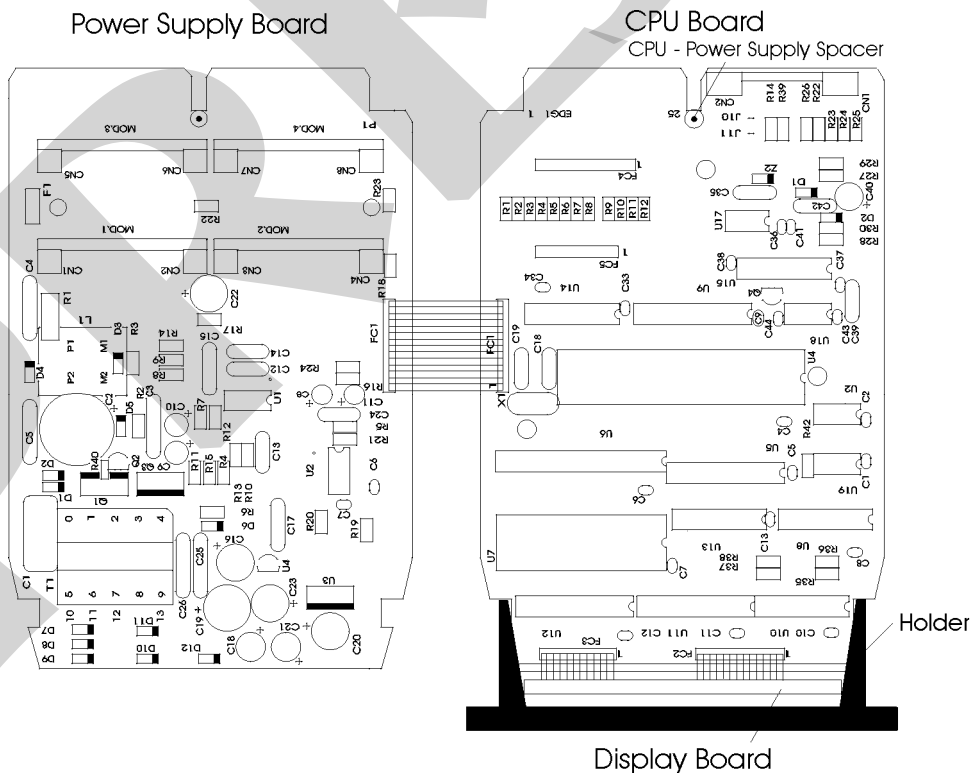

Fig. 19 - Indicator hardware
- iv) Move the Power Supply Board to the right and open the boards according to Figure 19.
Verify the integrity of fuse F1 of 2.0 A placed in the Power Supply Board as shown in figure 19. Due to its package it is necessary to check the fuse continuity in order to detect if it is broken.